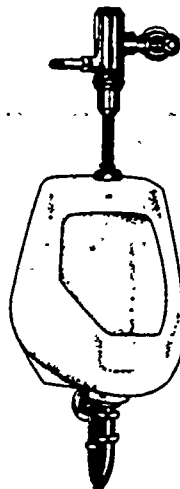

Figure 26. Wall-Hung Urinal
The wall-hung urinal, as shown in figure 26, is a solid porcelain, cast iron with enamel finish, or vitreous china fixture suspended from the wall with four bolts or brass screws. Wall-hung urinals come in different designs, such as: (1) syphon jet fixture with integral trap, (2) the urinal with an outside trap or exposed trap, and (3) the syphon jet urinal with side shields. All are proper for installations having tile, or other kind of impervious flooring, in which a drain may be installed.